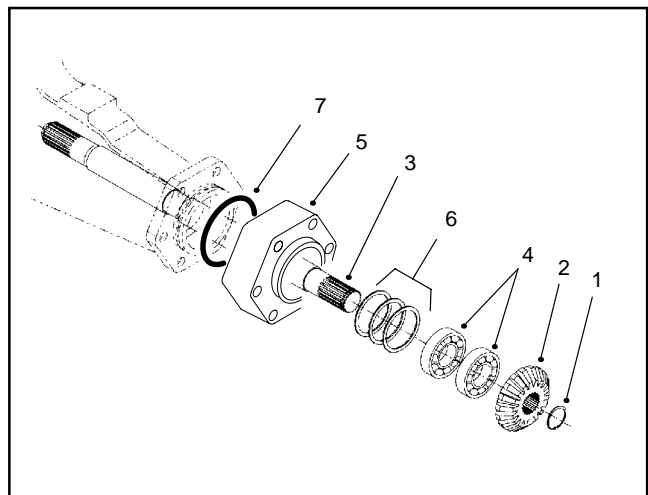

Figure 23
3. Remove the retaining ring and bevel gear (Fig 23).